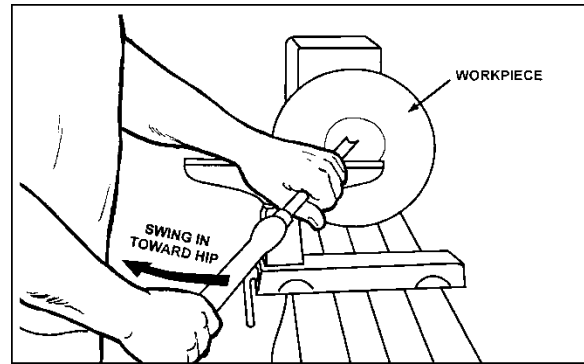

Figure 10-11
- Place 1/2" bowl gouge on tool support at center of the workpiece with the flute facing top of bowl. The tool handle should be level and pointed toward the four o'clock position, as shown in Figure 10-11.
- Use the left hand to control cutting edge of gouge, while right hand swings tool handle around toward your body (Figure 10-11). The flute should start out facing top of workpiece, and rotate upward as it moves deeper into the bowl to maintain a clean even curve. As the tool goes deeper into the bowl, progressively work out toward the rim. It may be necessary to turn the tool support into the piece as you get deeper into the bowl.